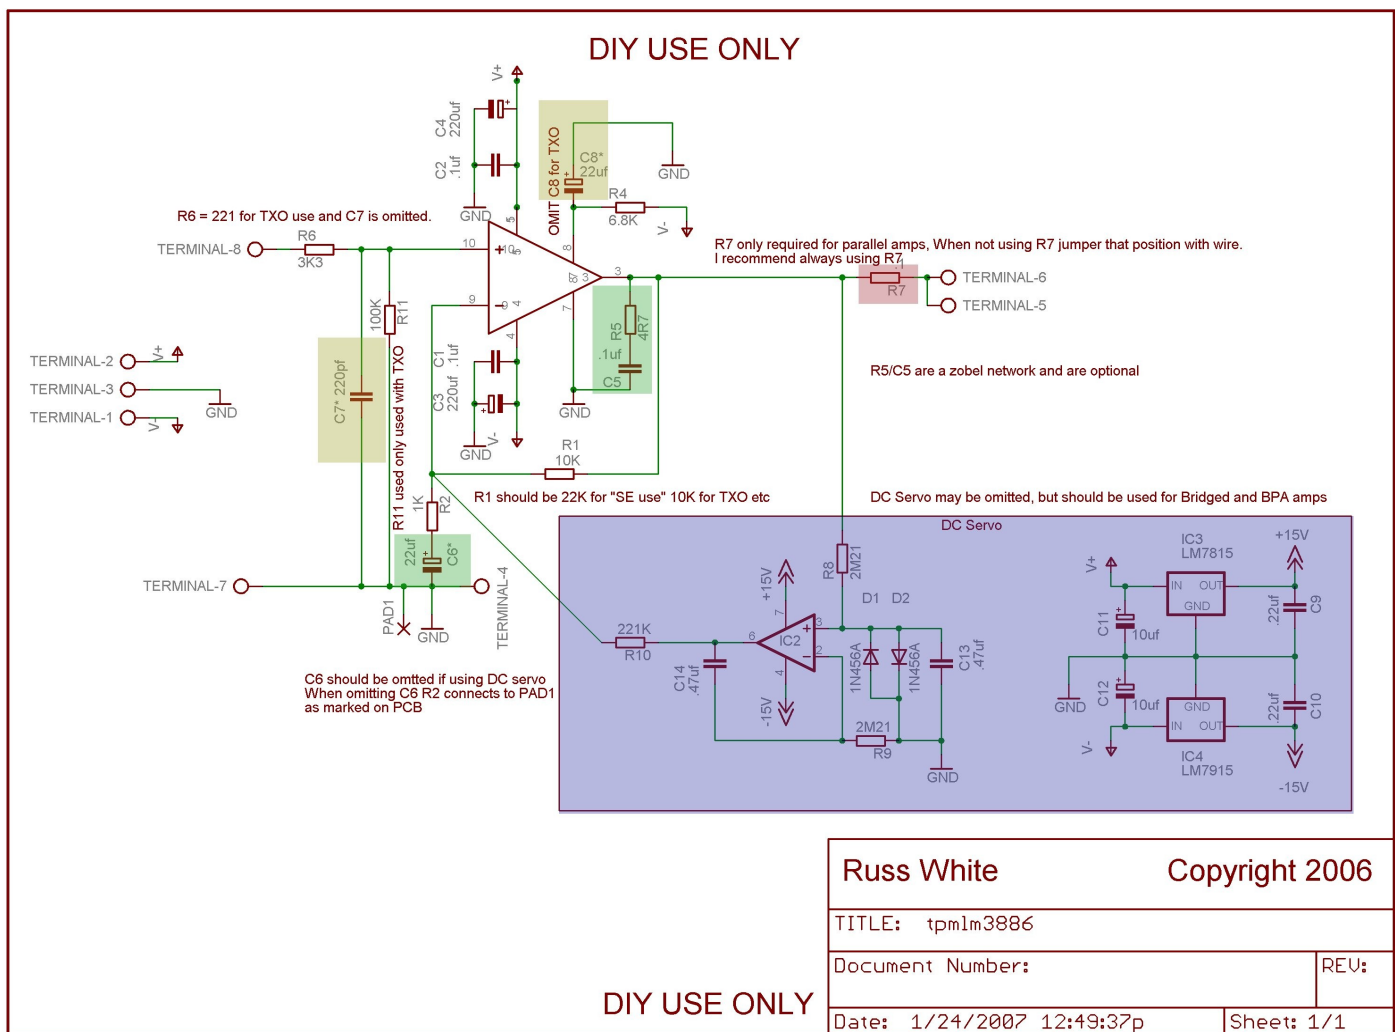

Figure 1: TPM-LM3886 schematic.
- 3) Use the DC nulling servo marked by the blue area in the schematic in figure 1. The servo actively integrates a signal which is opposite in polarity to any DC which occurs on the TPM output. This type of circuit is know as an integrator or servo. It will reduce the DC offset to a very low value (usually < 5mv). If you want ultra low offset use the servo.